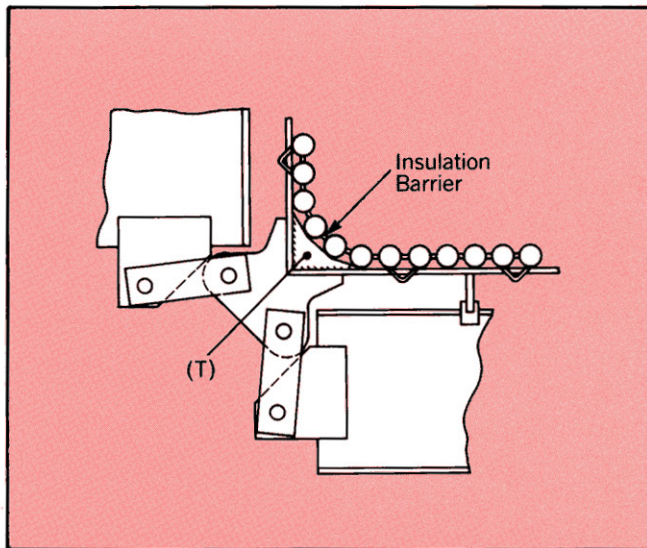

Figure 1 Insulation barrier.
1. No solid thermal barrier plates (T), shown on Figure 1. These should be removed and the thermal barrier re-established using insulation packed into the corner cavity.